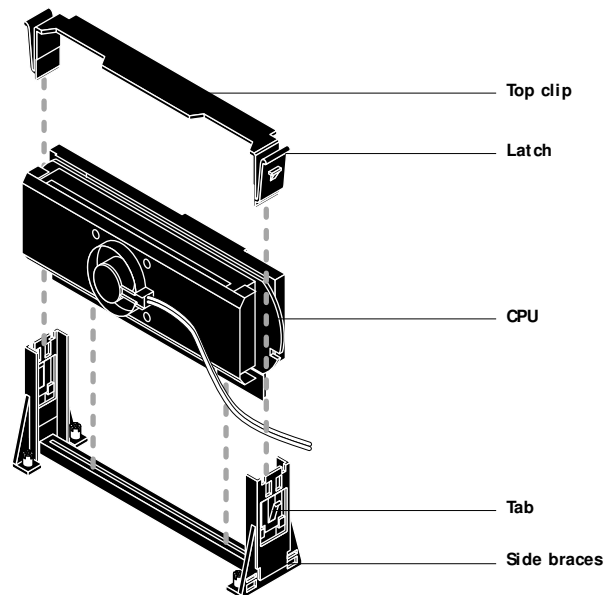

FIGURE 4-21 Replacing the CPU
3. **Insert the top clip into each side of the braces to secure the CPU. The top clip should be positioned as shown in Figure 4-21 on page 4-32.**